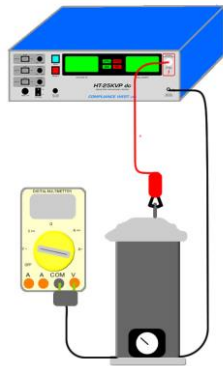

Figure 5-1. Voltage Measurement with 1000:1 High Voltage Probe.
3. Set up a 1000:1 probe with an external volt meter as is shown on Figure 5-1.
2. Set up a 1000:1 probe with the volt meter as is shown on Figure 5-1.